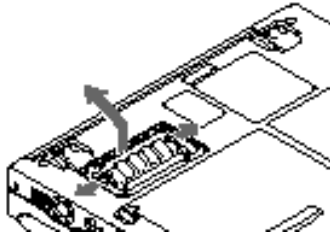

Figure 4-13 Removing a Memory Upgrade Module
7. Align the memory upgrade module with the part side up. Align the connector edge of the memory upgrade module with the connector slot in the compartment. The connector will be pointing toward the rear of the notebook. (*Figure 4-13*.)
8. Insert the memory upgrade module at a 45° angle. (*Figure 4-13*.) Press the connector edge of the module firmly down and into the connector.
2. Pull the clips sideways away from each side of the memory upgrade module at the same time. (Figure 4-13.)
3. While holding the clips out, remove the module from the slot by lifting it up and pulling towards the front of your notebook. (Figure 4-13.)
6. **Set your notebook on the Docking Station Leveler, making sure that the Alignment pins on the leveler (Figures 4-13 and 4-16), fit into the Docking Alignment receptacles in the bottom of your notebook. (See Figure 1-10 on page 9.)**